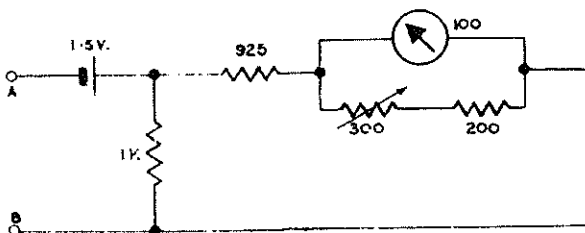

FIG. 6
9. Switch in Posn. 5 (Measurement of resistance of a subscriber's line).—Measurements on this range are accurate only between 1/10th and ten times the mid-scale value, i.e. from 50 to 50,000 ohms. The 'zero ohms' adjustment is made, as described in par. 8, after short-circuiting the A and B terminals. It is advisable to check this adjustment before making a measurement, because separate batteries are used for the two ranges and there may, therefore, be a slight difference in the 'zero-ohms' reading when changing over from one range to the other. As shown in Fig. 6, the meter—with its adjustable shunt—is joined in series with 925-ohm resistor and a 1.5-V. battery. An additional 1,000-ohm resistor—connected in parallel—reduces the resistance of the instrument to 500 ohms and so reduces the sensitivity that, when an external 500-ohm resistance is joined between terminals A and B, half-scale deflexion is given.